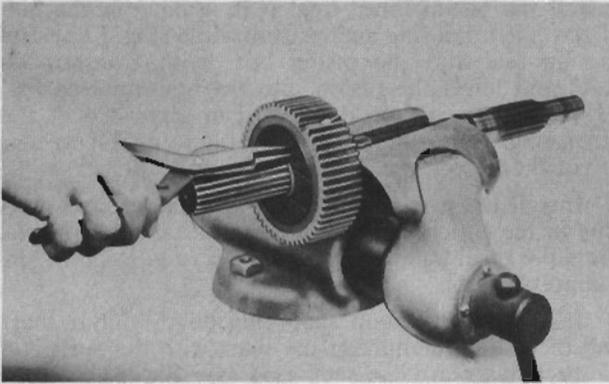
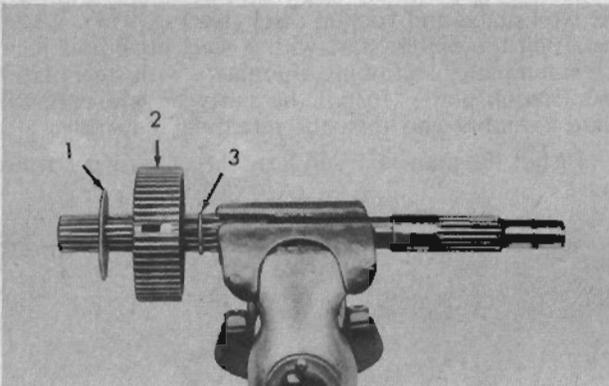

FIG. 326
FIG. 327
Use special tool J-5943 and compress the clutch spring and release the spring retainer snap ring using expander snap ring pliers (see Fig. 324). Back off the nut on the spring compressor tool and remove the tool, snap ring, retainer, and spring. Sharply rap or drop the clutch housing on the bench, open end downward, to dislodge the piston. In the event the rubber lip seal has swelled, it might be necessary to rap the housing on the bench more than once. Remove the lip seal (4, Fig. 325) from the clutch piston (2) and also remove the piston inner ring (3) from the clutch housing hub (1). Clamp the input shaft in a vise and remove the clutch hub snap ring (see Fig. 326). Then remove the clutch hub thrust washer (1, Fig. 327), clutch hub (2), and rear snap ring (3).